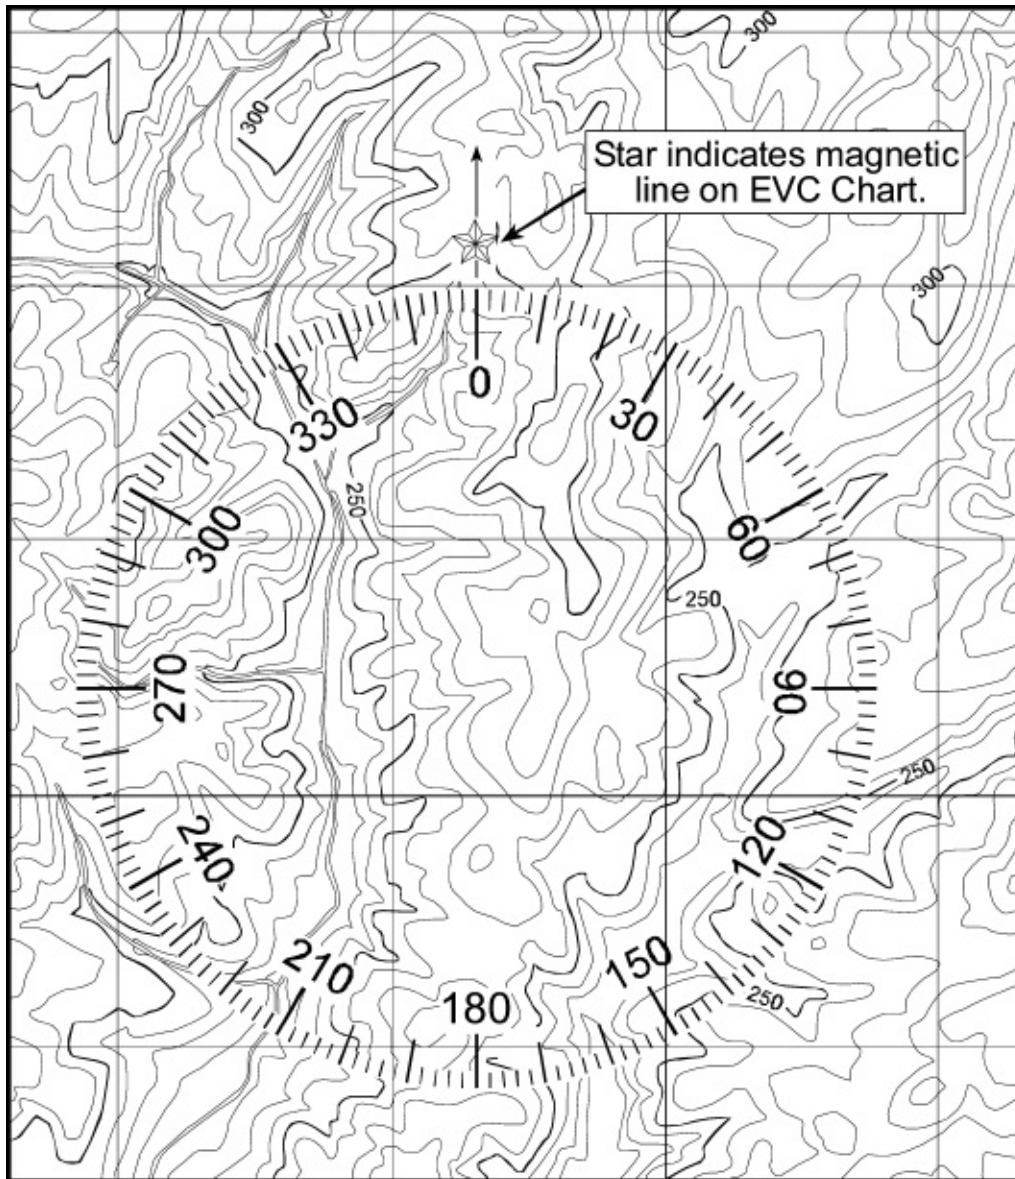

Figure 2-6. Map orientation with compass rose
- (2) Using a compass rose (**Figure 2-6**)—
- (3) If there is **NO** compass, orient map using cardinal direction obtained by the stick and shadow method or the celestial aids (stars) method.